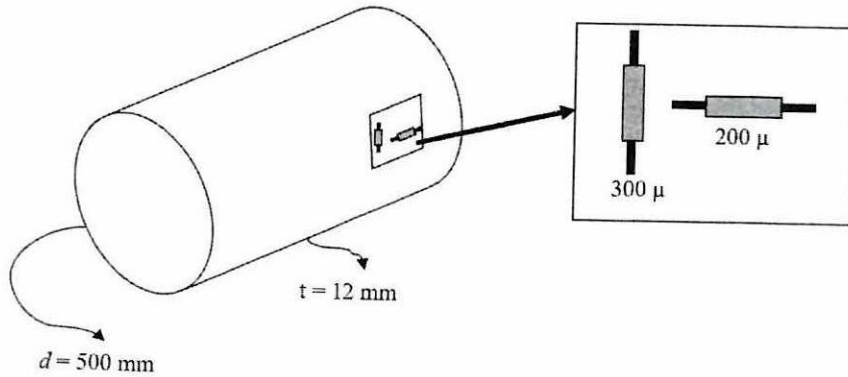

Figure Q5(c)
- (b) List **four (4)** examples of thin wall pressure vessels and state whether they are spherical or cylindrical vessels. (4 marks)
- (c) A thin cylinder is attached with a set of strain gauges arrange in circumferential and longitudinal on its body to measure the strain value when the cylinder is subjected to internal pressure as shown in **Figure Q5(c)**. The cylinder is in closed-end conditions and the strain reading is shown in the figure. The cylinder is subjected to pressure by fluids inside the vessel. The internal diameter is 500 mm and thickness of the vessel is 12 mm.